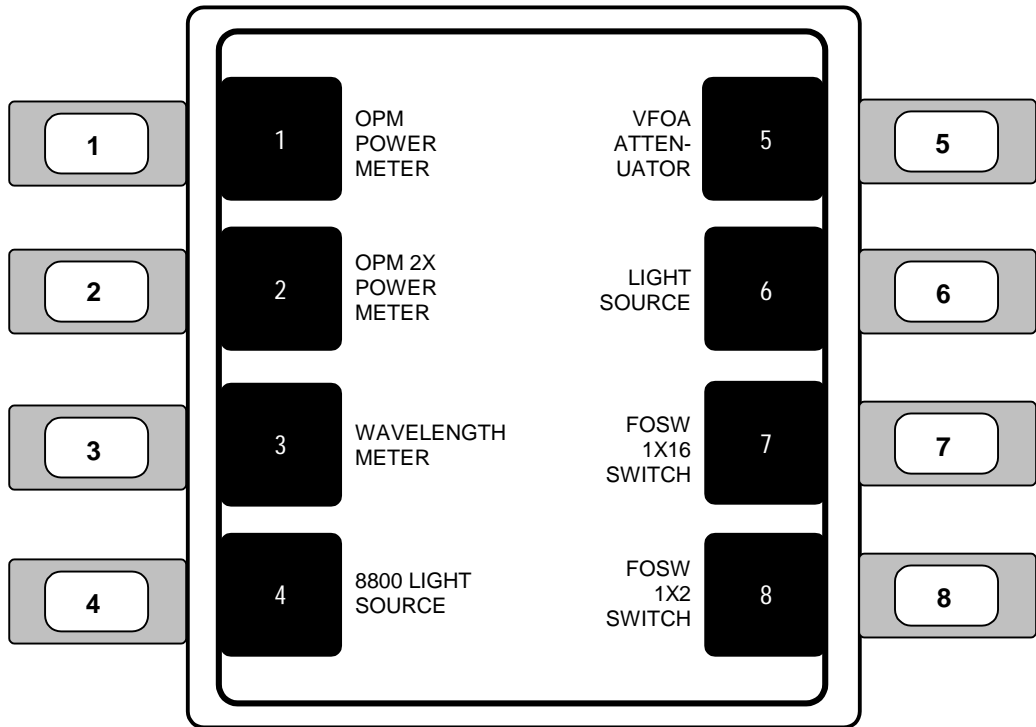

Figure 22 – Module Screen
1. **MODULES** – Pressing the adjacent soft key allows the user to access setup and control functions of each module. See **Figure 22** for details.